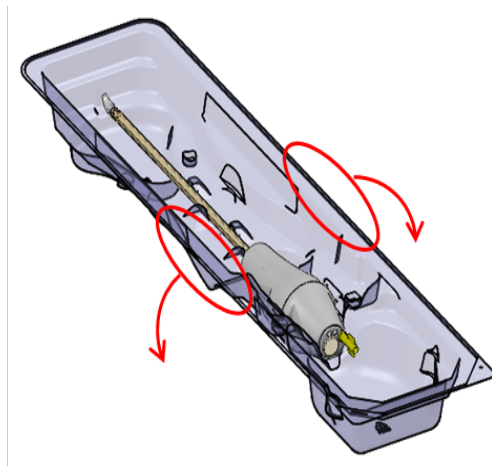

Figure 19: Releasing the UA from the packaging tray
1. **MRI Technologist**: Using the fluid circuit (FC) tab of the PSIB display (or the FC information box of the Setup workspace in TDC), flow water into the UA by clicking **ON**.
5. **MRI Technologist**: While holding the UA packaging tray by the long edges of its perimeter, flex the tray to release the UA from its snap features (*Figure 19*).